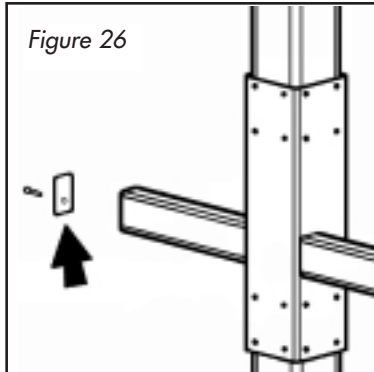

Figure 26
1. Remove the screws, washers and retainer plates from the end of the right slider arm. (Figure 26)